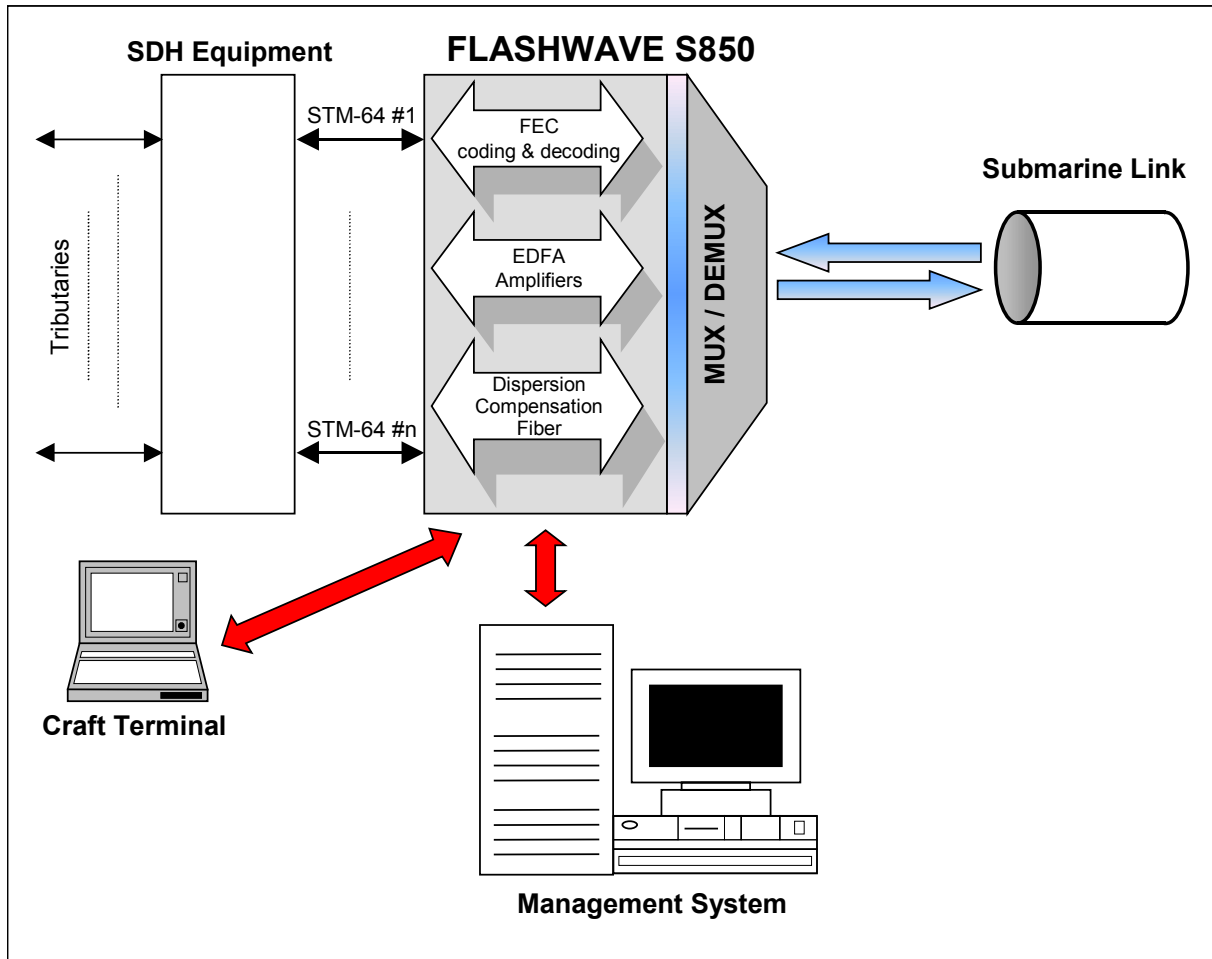

Figure 1 FLASHWAVE S850 Overview at Terminal Station
In order to meet customer demand on increasing bandwidth, the FLASHWAVE S850 allows seamless in-service upgrading capability. Three (3) types of the FLASHWAVE S850 are listed in the following table. It provides a wide range of traffic capacities up to 32λ per fiber pair with 10Gb/s system. Figure 1 shows the overview of FLASHWAVE S850 within a terminal station.